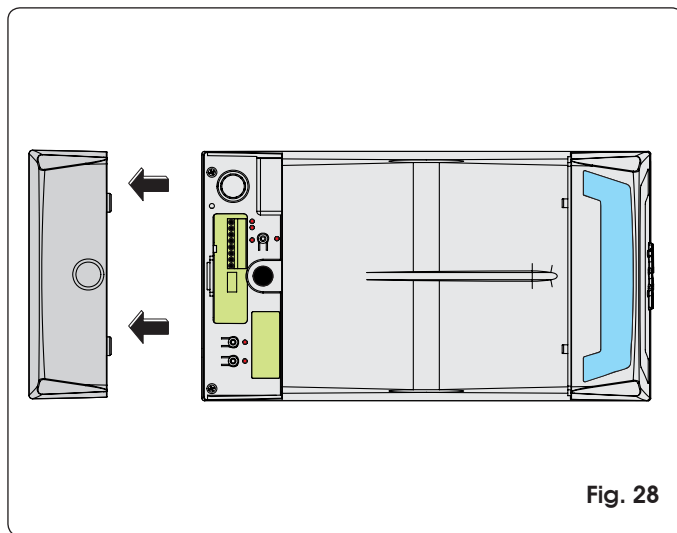

Fig. 28
**👉** The SETUP cycle is carried out with the plastic housing installed. Just remove the rear door (Fig. 28). Grip the rear door with both hands and pull gently downward. When you have finished the procedure described in this chapter, put the door back in place.